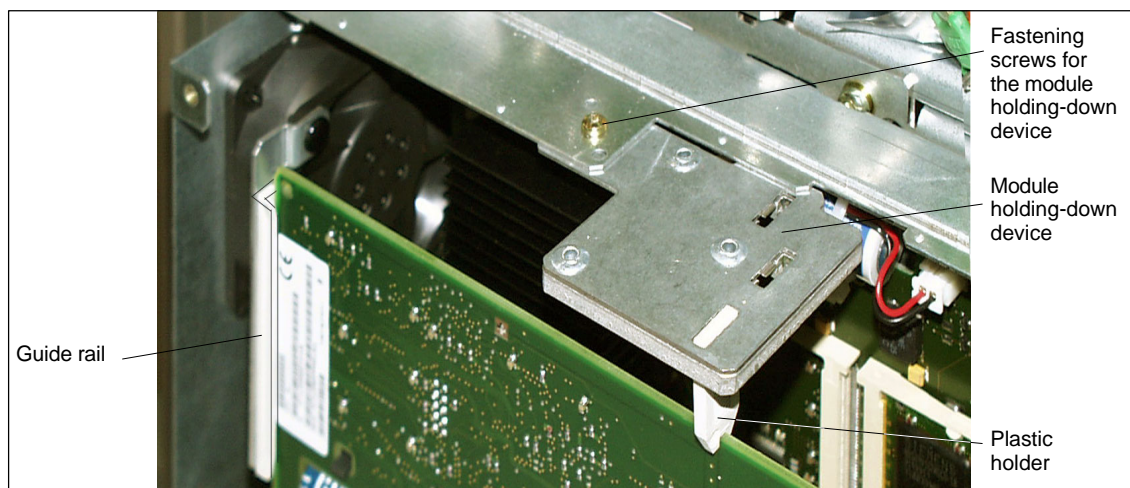

Fig. 2-8 Fixing the MCI board
4. Remove the fastening screw of the module holding-down device (Fig. 2-8) of the MCI board and remove the module holding-down device.